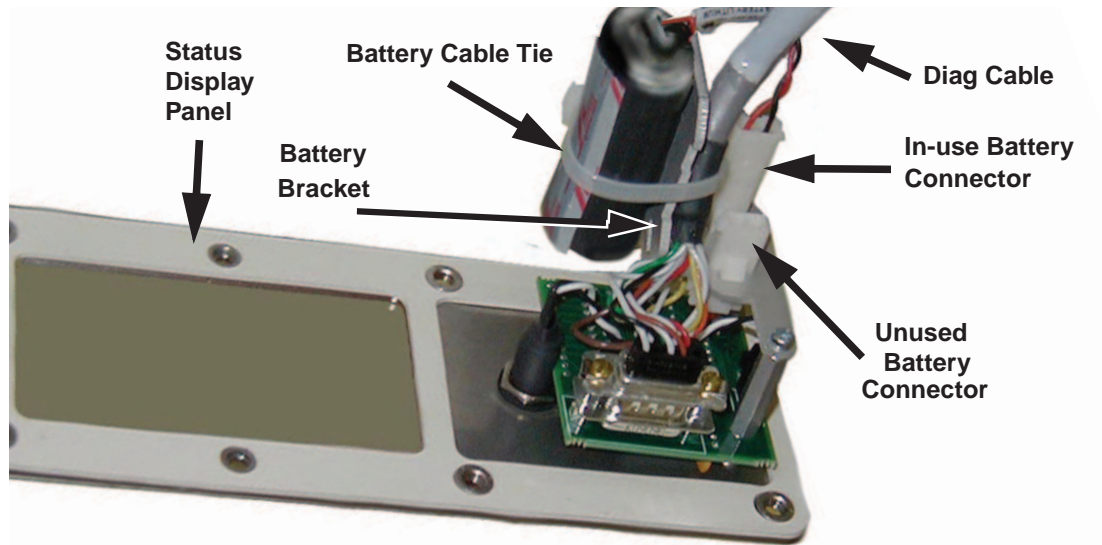

Figure 9-8. Battery Bracket on Status Display Panel
10. The battery bracket assembly has two battery connectors. Locate the unused battery connector on the battery bracket. See Figure 9-8
There is only one way to plug in the connector. See Figure 9-8.
- The “diag” cable must be cable-tied to the bracket (and battery pack) to relieve strain on the Status Display connector. See Figure 9-8.